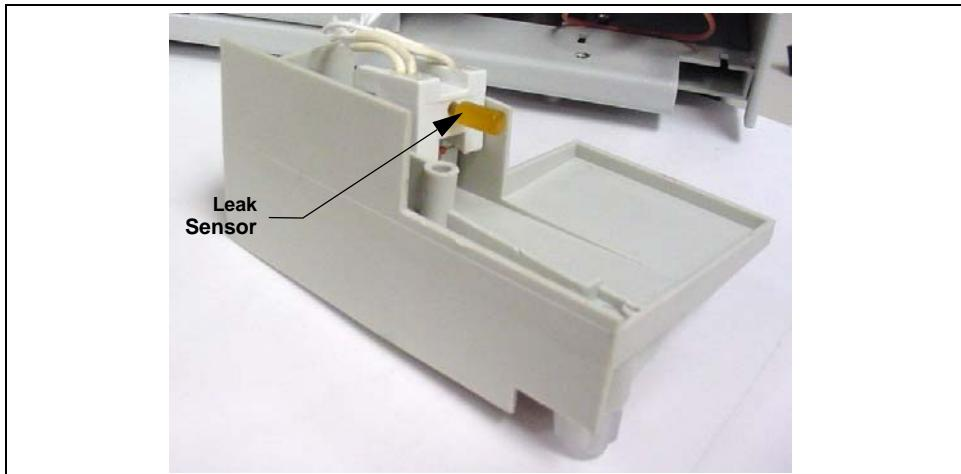

*Figure 5-10. Removing the Drip Tray*
1. Using a 2.5-mm Allen wrench, remove the screw that secures the drip tray autosampler compartment and remove the injection valve waste line from the front of the tray (see Figure 5-10).
3. Tilt the bottom of the tray out slightly and push the tray down slightly until the leak sensor on the inside of the tray (see Figure 5-10) clears the overhang on the front of the autosampler.
3. Make sure the needle seal line is in the front of the tray (see Figure 5-10).